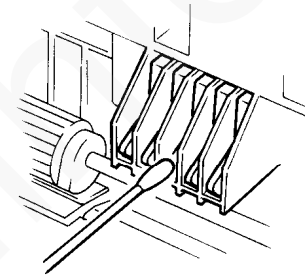

Figure 10. Right Frame HV Connectors
- c. Inspect or clean the contacts (toner motor and sensor) on the right frame with a cotton swab (Figure 10).